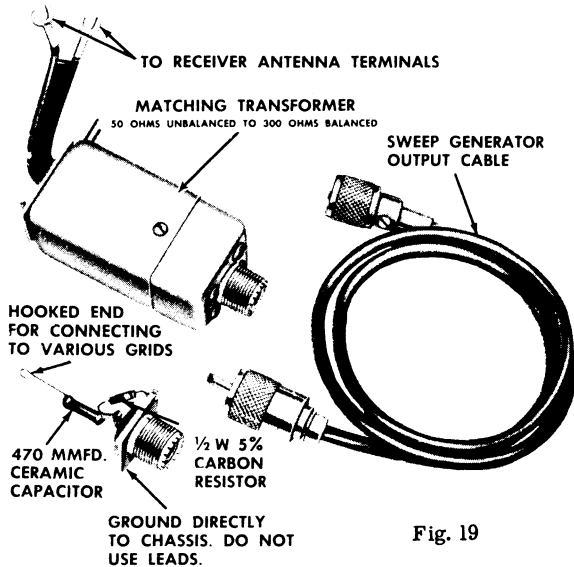

Fig. 19
3. Connect the sweep generator through the terminating network shown in Fig. 19 to test point "A" (Fig. 4) and adjust attenuator to obtain a 3 volt peak